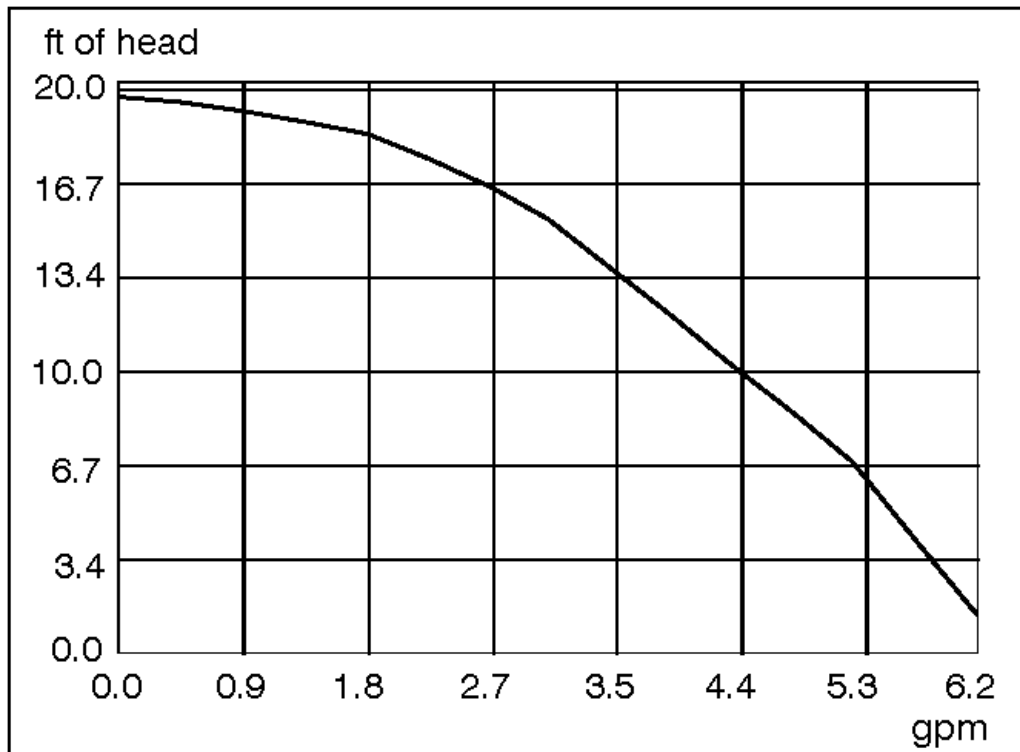

Figure 9.2: Circulator Performance Curve (Adjusted For Pressure Drop Through Boiler)
- 2) Circulator (Included & Required) – This boiler is equipped with a factory piped circulator, which is often the only circulator required. Figure 9.2 is a performance curve for this circulator. Note that this curve has been adjusted to take into the account of all internal boiler piping. This performance curve therefore shows the amount of flow that can be achieved at various heating system pressure drops.